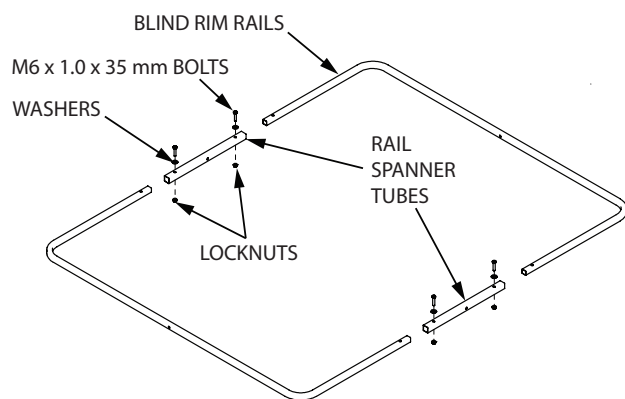

FIGURE 5
a. Insert (2) blind rim rails (TWR19) into (2) rail spanner tubes (TWR26) forming a square. Align the four holes and insert (4) provided M6 x 1.0 x 35 mm bolts, locknuts and washers. **SEE FIGURE 5**